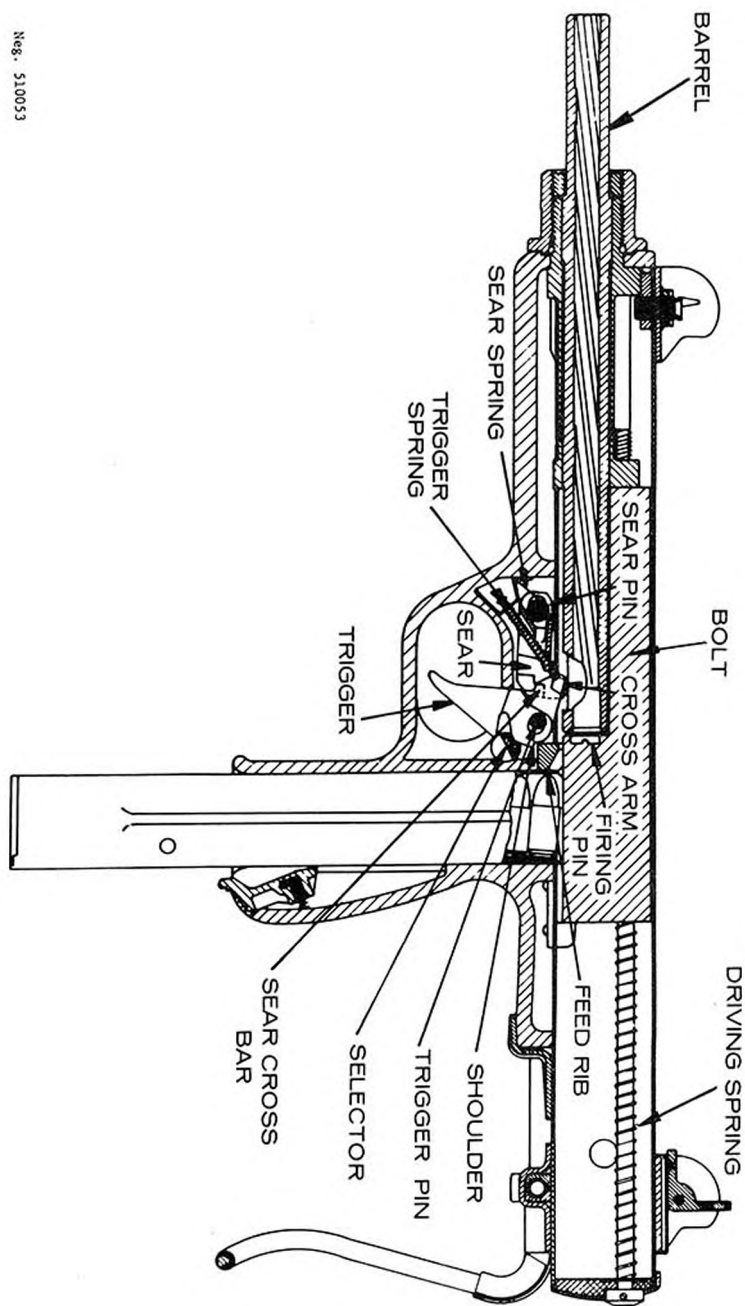

Figure 54. MPi Steyr 69 section.
a. The Steyr submachinegun is blowback-operated. When the gun is cocked and a loaded magazine is in place, pressure on the trigger causes the sear to release the bolt. The bolt, under pressure of the compressed driving spring, goes forward. The feed rib (fig 54) on the bottom of the bolt strikes the top cartridge in the magazine and drives the cartridge up the feed ramp and into the chamber. The extractor snaps into the extractor groove in the cartridge case and the fixed pin (fig 54) strikes the primer to fire the cartridge.
b. The cartridge, upon firing, generates gas to drive the bullet through the barrel; at the same time, the gas drives the cartridge case rearward with great force. The case is held, however, by the slight remaining forward movement of the heavy bolt. By the time the rearward thrust of the cartridge case overcomes the bolt's inertia and drives it rearward, the bullet has left the muzzle, the gas pressure has subsided, and only low residual pressure remains. The bolt has had sufficient momentum to continue rearward and compress the driving spring. The extractor holds the cartridge to the bolt face until the case strikes the fixed ejector. The ejector pivots the cartridge case around the extractor and expels the case through the ejection port. The bolt continues its rearward movement until it strikes the buffer (fig 54) and stops. The driving spring then forces the bolt forward again. The magazine spring has forced a fresh cartridge up in the magazine feed lips, and the bolt is ready to commence another firing cycle, as activated by the trigger mechanism.
c. The trigger mechanism is simple in construction but sophisticated in functioning. Figure 54 is a sectional view of the trigger mechanism. The sear and the trigger have free fore and aft movement, but the latter is spring-loaded to the rear.